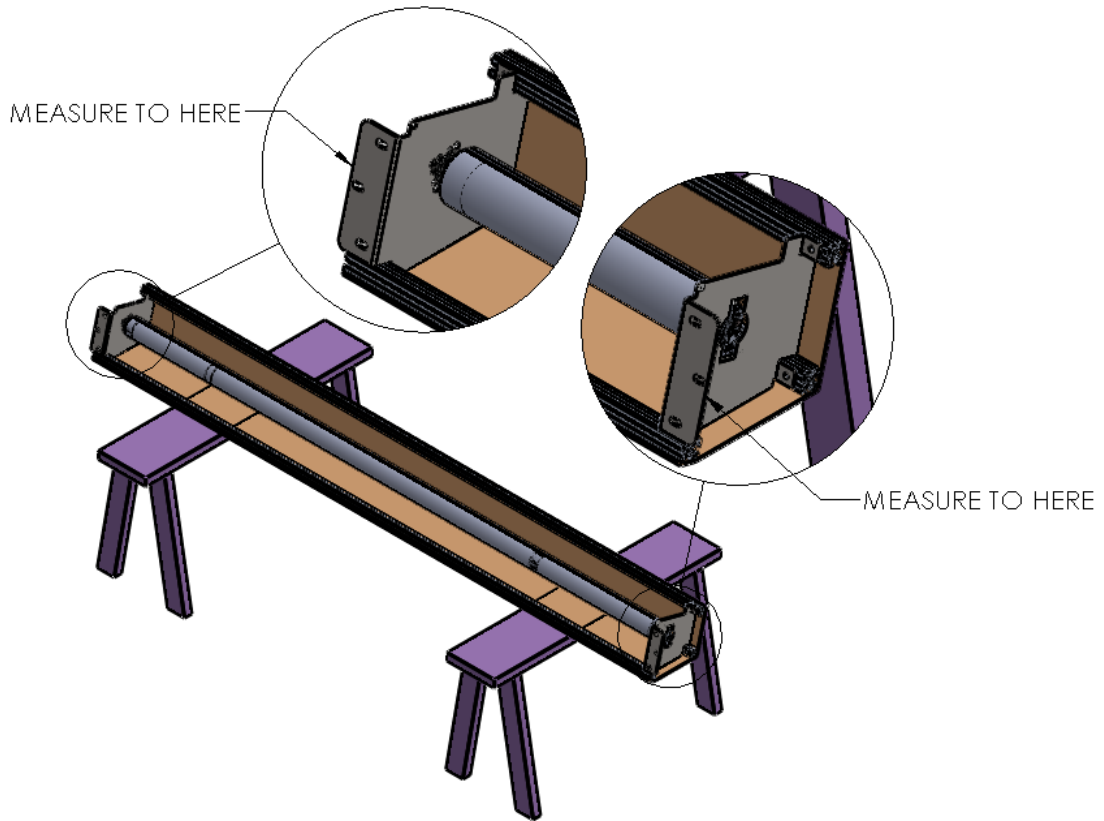

Figure 2 MEASURE DOOR WIDTH
2. Place the G1 Door roll Header Assembly across a safe and level work surface, and rotate the roll assembly frame so that the Header Bracket Mounting flanges are facing upward. (Figure 2 MEASURE DOOR WIDTH).
3. Measure the total width of the whole roll assembly from outermost edge of one Header Bracket's Mounting flange to the outermost edge of the opposite side. (Figure 2 MEASURE DOOR WIDTH)